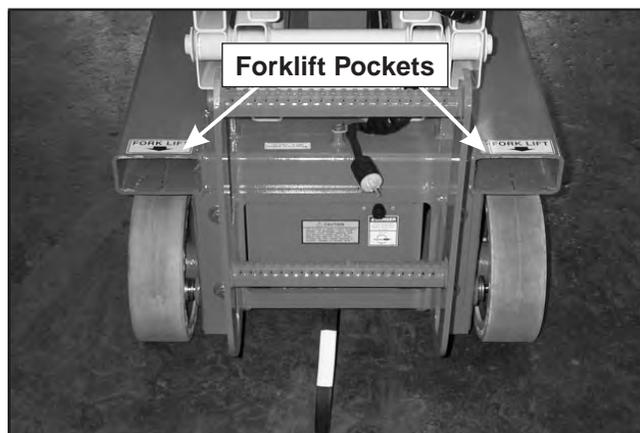

Figure 10.1—Forklift Pockets
3. Insert the forklift forks into the pockets (refer to Figure 10.1) or at the designated points under the pothole protector skids to lift the machine.